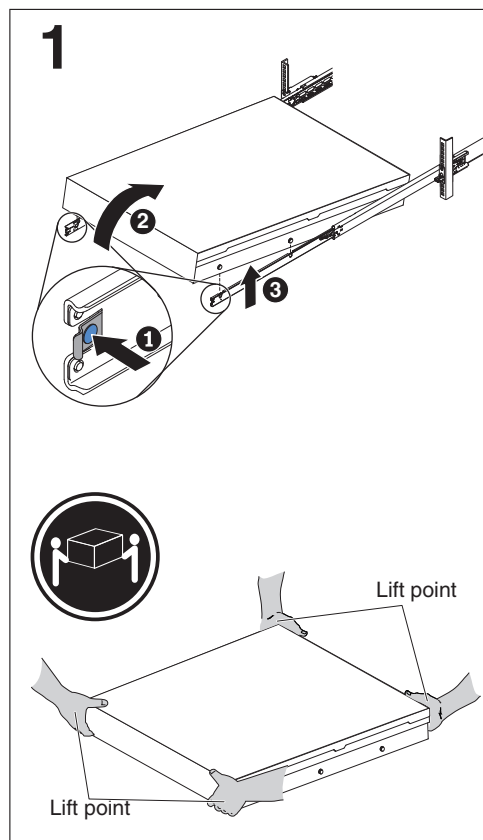

Figure 45. Removing the SAN Volume Controller 2145-DH8 from the rack
Note: If you are removing a 2U server, make sure that you have two people when you lift the server; position their hands as shown in Figure 45 on page 62.
4. Pull the locking levers **1** forward, as shown in Figure 45.